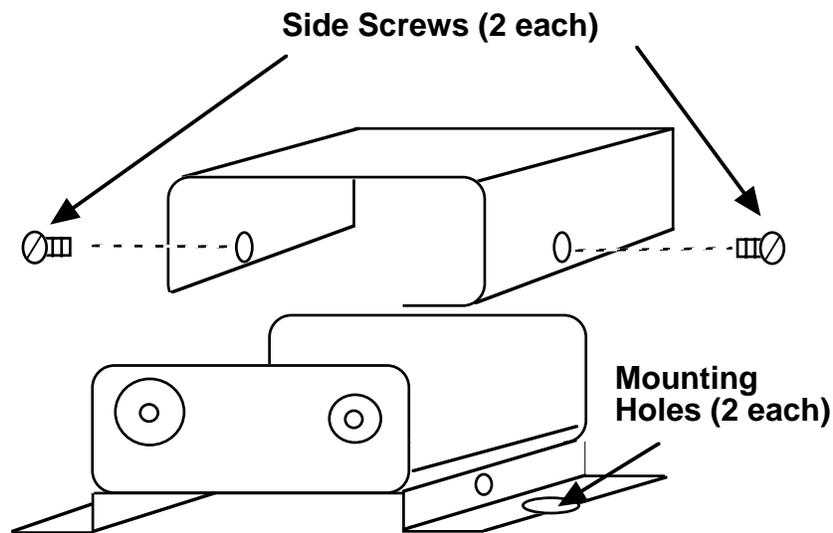

FIGURE 2.1 2006-02 Mechanical Assembly
The 2006-02 is packaged in an aluminum chassis. The unit can be mounted to a panel using the 2 holes at the bottom. The unit derives +DC (+14 to +20 VDC) from the RF out center conductor. (See Figure 2.1 and Figure 2.2)
- 1.) Secure the 2006-02 to a panel using the two bottom mounting holes (see Figure 2.1 and Figure 2.2).